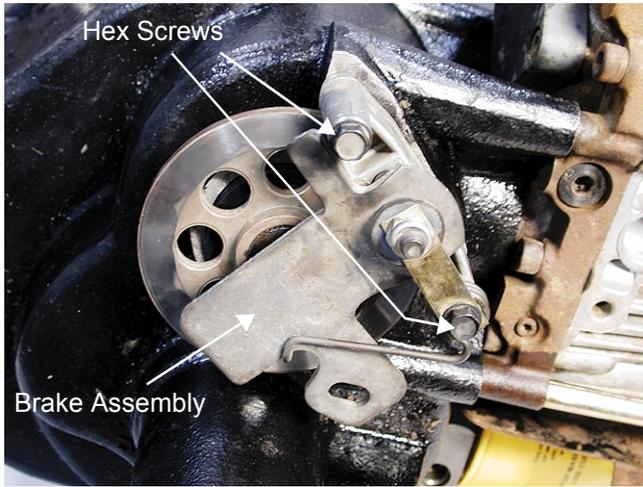

Figure 5
- Remove both hex washer head screws securing the brake assembly to the right transmission housing using a 3/8 in. socket. See Figure 5.